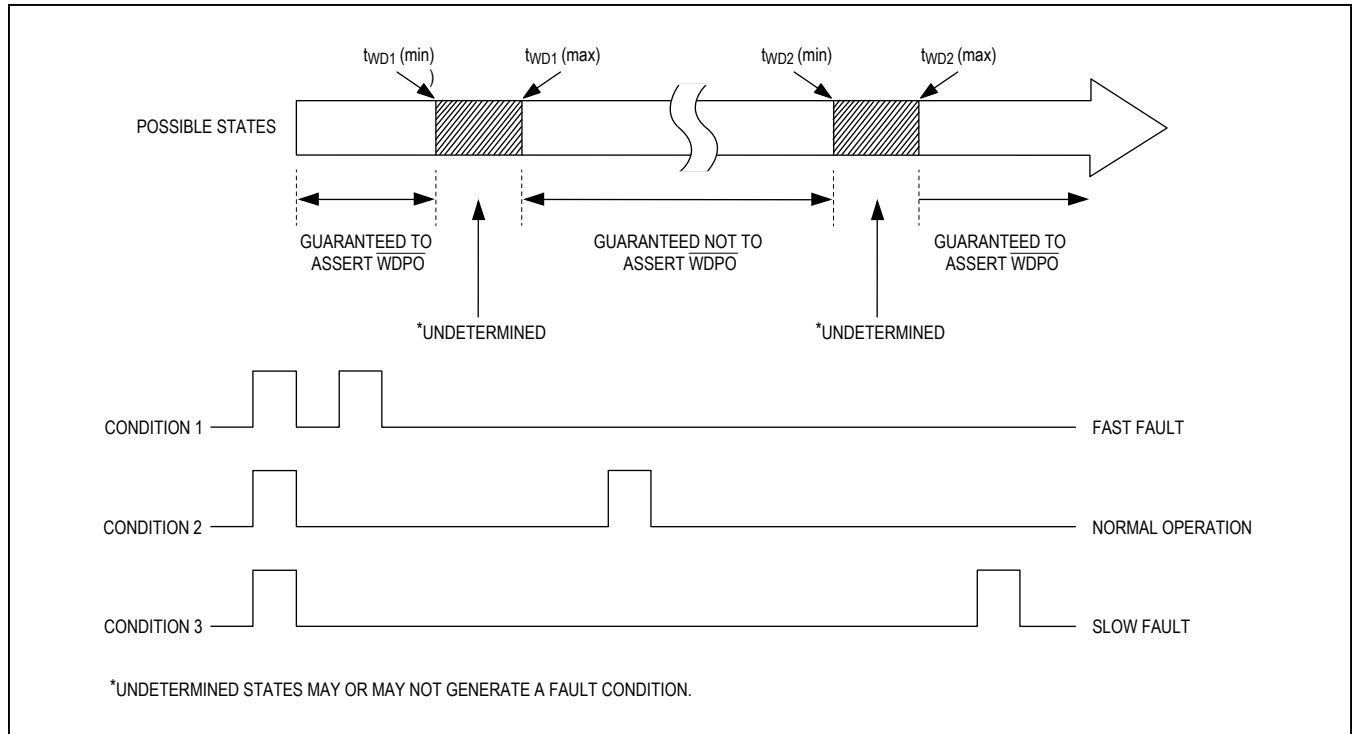
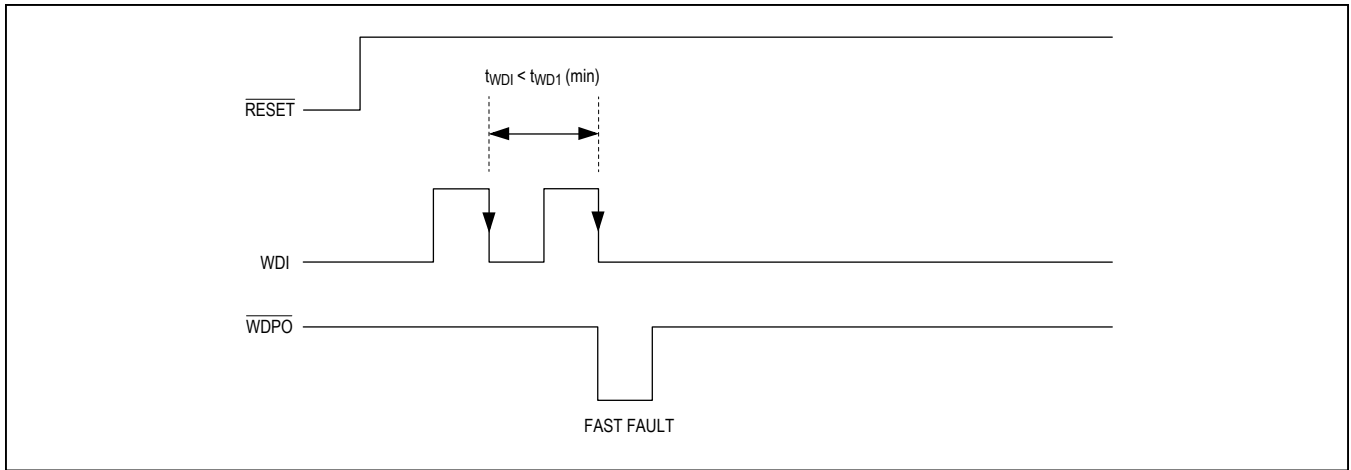
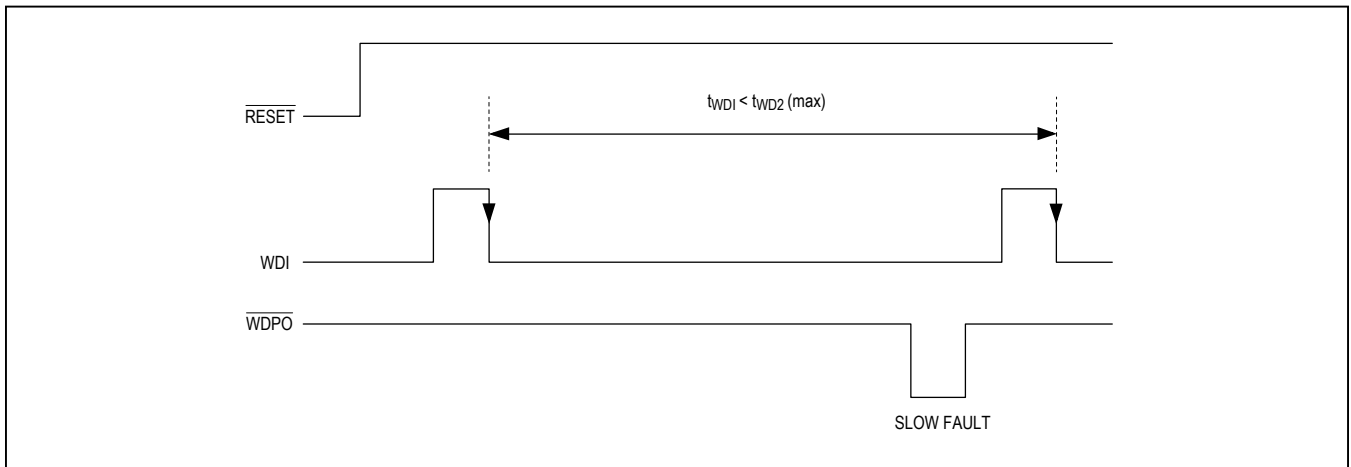
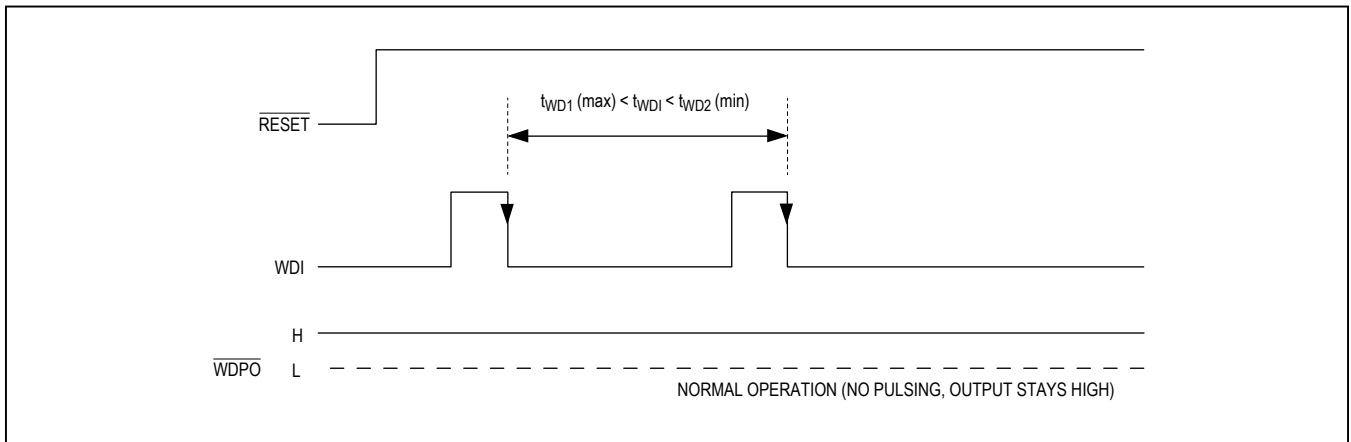

Figure 1. Detailed Watchdog Input Timing Relationship
Figure 2. Fast Fault Timing
Figure 3. Slow Fault Timing
Figure 4. Normal Operation, \overline{WDPO} Not Asserted
*See Figure 1 for operation.
The MAX6323/MAX6324 μP supervisory circuits maintain system integrity by alerting the μP to fault conditions. In addition to a standard V_{CC} monitor (for power-on reset, brownout detect, and power-down reset), the devices include a sophisticated watchdog timer that detects when the processor is running outside an expected window of operation for a specific application. The watchdog signals a fault when the input pulses arrive too early (faster than the selected t_{WD1} timeout period) or too late (slower than the selected t_{WD2} timeout period) (Figure 1). Incorrect timing can lead to poor or dangerous system performance in tightly controlled operating environments. Incorrect timing could be the result of improper μP clocking or code execution errors. If a timing error occurs, the MAX6323/MAX6324 issue a watchdog pulse output, independent from the reset output, indicating that system maintenance may be required.
than t_{WD1}) (Figure 2) or falling edges that are too far apart (slower than t_{WD2}) (Figure 3), $\overline{\text{WDPO}}$ is pulsed low. Normal watchdog operation is displayed in Figure 4 ($\overline{\text{WDPO}}$ is not asserted). The internal watchdog timer is cleared when a WDI falling edge is detected within the valid watchdog window or when the device's $\overline{\text{RESET}}$ or $\overline{\text{WDPO}}$ outputs are deasserted. All WDI input pulses are ignored while either $\overline{\text{RESET}}$ or $\overline{\text{WDPO}}$ is asserted. Figure 1 identifies the input timing regions where $\overline{\text{WDPO}}$ fault outputs will be observed with respect to t_{WD1} and t_{WD2}. After $\overline{\text{RESET}}$ or $\overline{\text{WDPO}}$ deasserts, the first WDI falling edge is ignored for the fast fault condition (Figure 2).